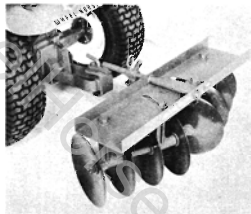

FIGURE 3
1. **Clevis Type A** — If the tractor is equipped with a clevis hitch, the disc hitch device must be installed on the hitch bar with the  $\frac{3}{8}$ -13 x  $1\frac{1}{2}$  bolt and nut as shown in Figure 3. Note: The stabilizer bolts should not be tightened for operation thus allowing the disc to pivot for turns. Tighten the stabilizer bolts when transporting the disc. When extra weights are added, it is not possible to lift the disc with the hand lever and the discs should be set at 0° for transporting.